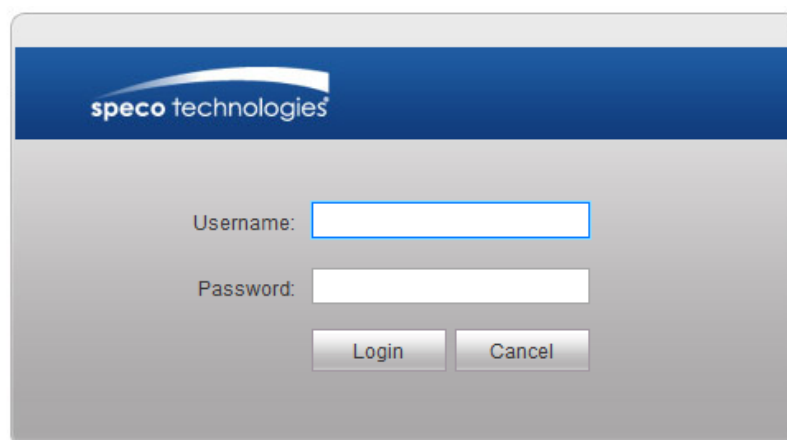

Figure 5-1
3. After installation, the login interface is shown as below. See Figure 5-1.